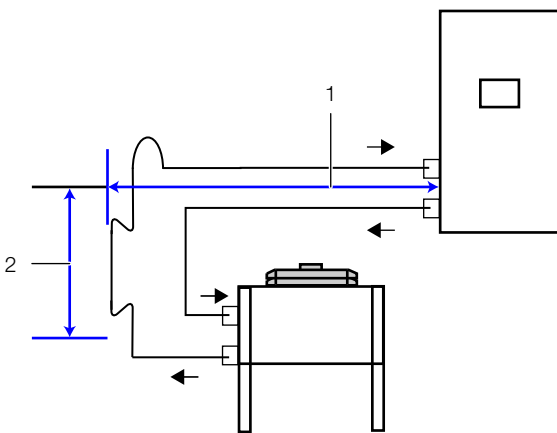
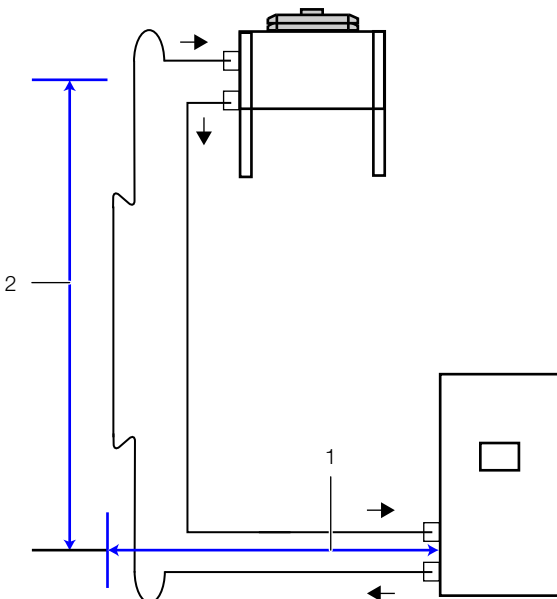

Fig. 7: Relative positioning condenser below the LCP DX
Fig. 8: Relative positioning above the LCP DX
Sum total of horizontal (fig. 7, item 1) and vertical spacing (fig. 7, item 2 or fig. 8, item 2) between the LCP DX and the condenser	Max. 45 m equivalent length
Condenser above LCP DX (fig. 8, item 2)	max. 20 m
Condenser below LCP DX (fig. 7, item 2)	max. 3 m